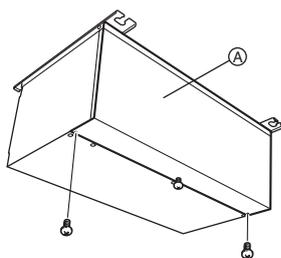

Fig. 13
- 1) Remove the screws in the cover. (Fig. 13)